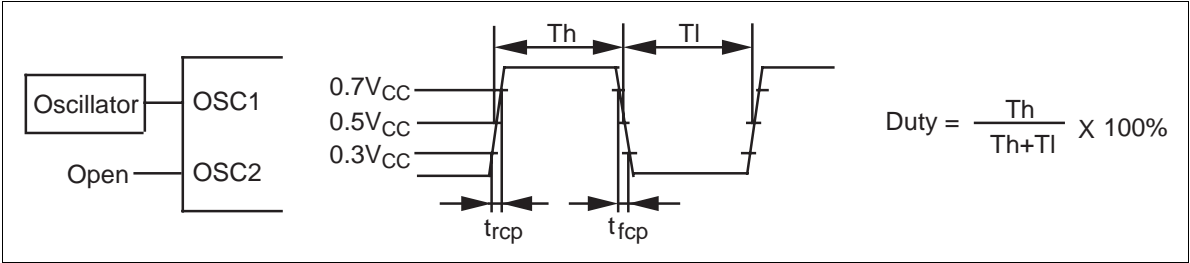

Figure 48 External Clock Supply
13. Applies to the external clock input (Figure 48).